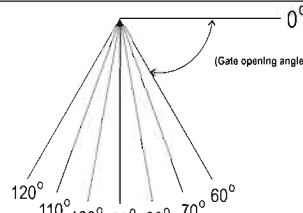

Figure 1 Gate Opening Angle Diagram
- Estimate the gate swing angle with figure 1.